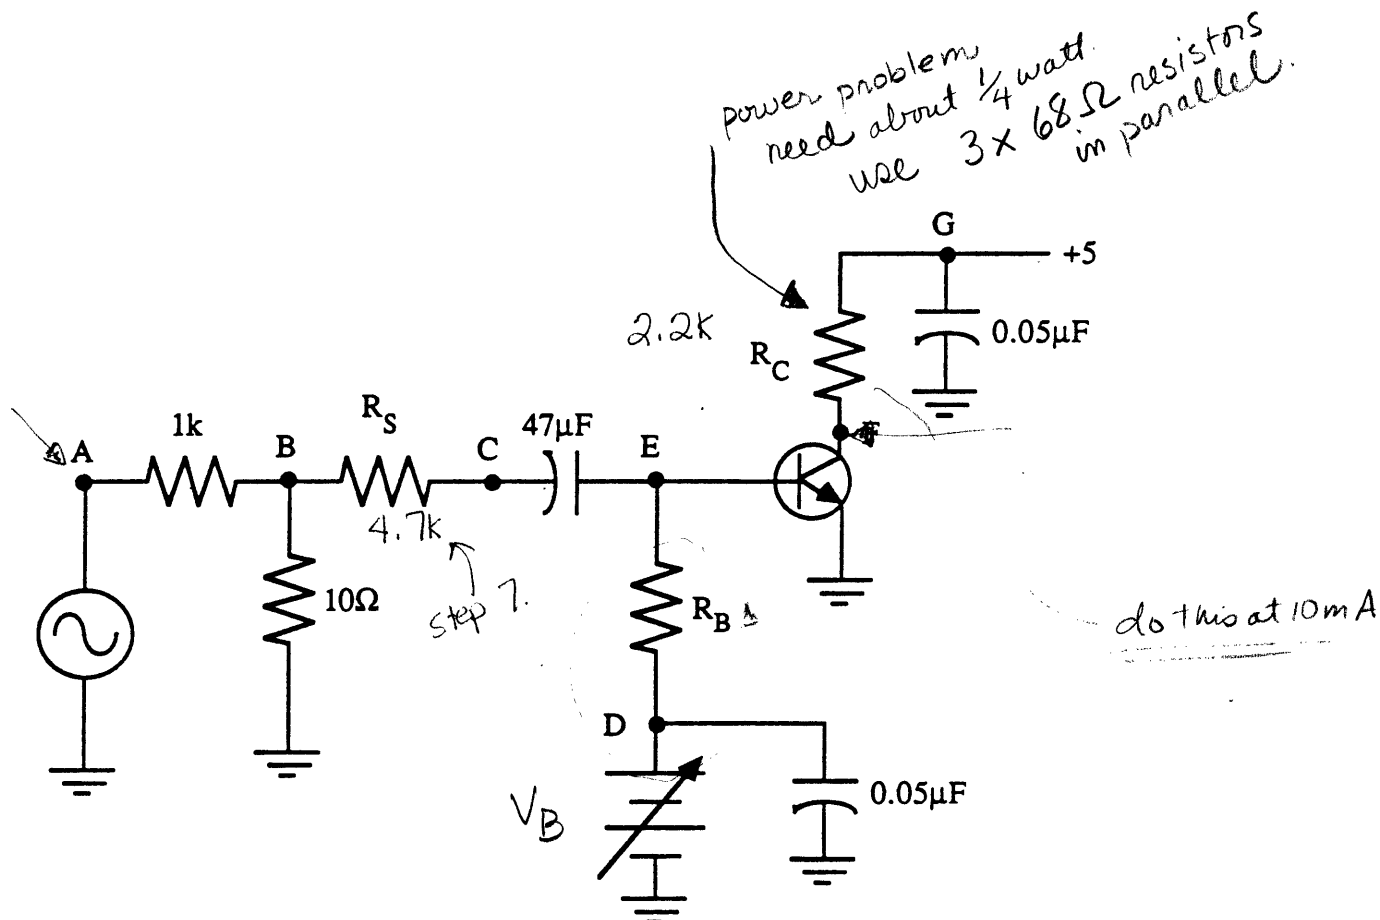

Figure 1 - Common emitter amplifier
- (1) Build the circuit shown in Fig.1 using $R_B = 100\text{ K}$, $R_S = 4.7\text{ K}$, and $R_C = 2.2\text{ K}$. Points B and C should be shorted together. Connect your scope CH1 input to point A and CH2 to point F. Set the signal generator to a 10 KHz sine wave.
- (2) Set the generator's AC amplitude to zero and adjust the ~~variable power supply~~ V_B so that the DC voltage at point F is approximately 2.80 V.
- (3) Use the DMM to measure the exact DC voltages at points D, E, F, and G and record your results in Table 9.1.
- (4) Increase the generator's AC amplitude so that the AC signal at point F is approximately 200 mV_{p-p}.
- (5) Using your scope measure the exact AC peak-to-peak voltages at points A and F. Record your results in Table 9.1 *Circuit 1*
- (6) Remove the short circuit between points B and C.
- (7) Measure the new peak-to-peak voltage at point F.
- (8) Perform steps 1 through 7 for a second time with $R_B = 10\text{ K}$, $R_S = 47\text{ ohms}$, and $R_C = 22\text{ ohms}$. Record your results in Table 9.2 — *circuit 2*.
- (1) Rebuild the circuit shown in Fig.1 using $R_B = 100\text{ K}$ and $R_C = 2.2\text{ K}$. Points B and C should be short circuited. Connect scope CH1 to point A and CH2 to point F. Set the signal generator to a 10 KHz triangle wave. *Adjust V_B so that the potential at point F is 2.5V*
1. Calculate the following parameters for ~~the circuit~~ the circuit of Figure 1.